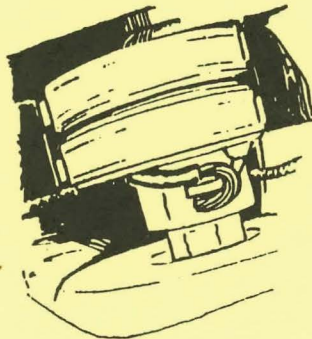

FIGURE 1
7. Use needle nose pliers to bend a "U" shape in the wire. Place the wire along the top of the slip ring as shown. (Fig. 1)